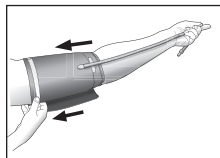

Fig. 4
The tube should follow the inside length of the arm, Fig 4.
8. The Hypertension Indicator will indicate your reading range on the left display in comparison to the color bars on the face of the monitor, Fig 4. For more information see Interpreting Your Results.